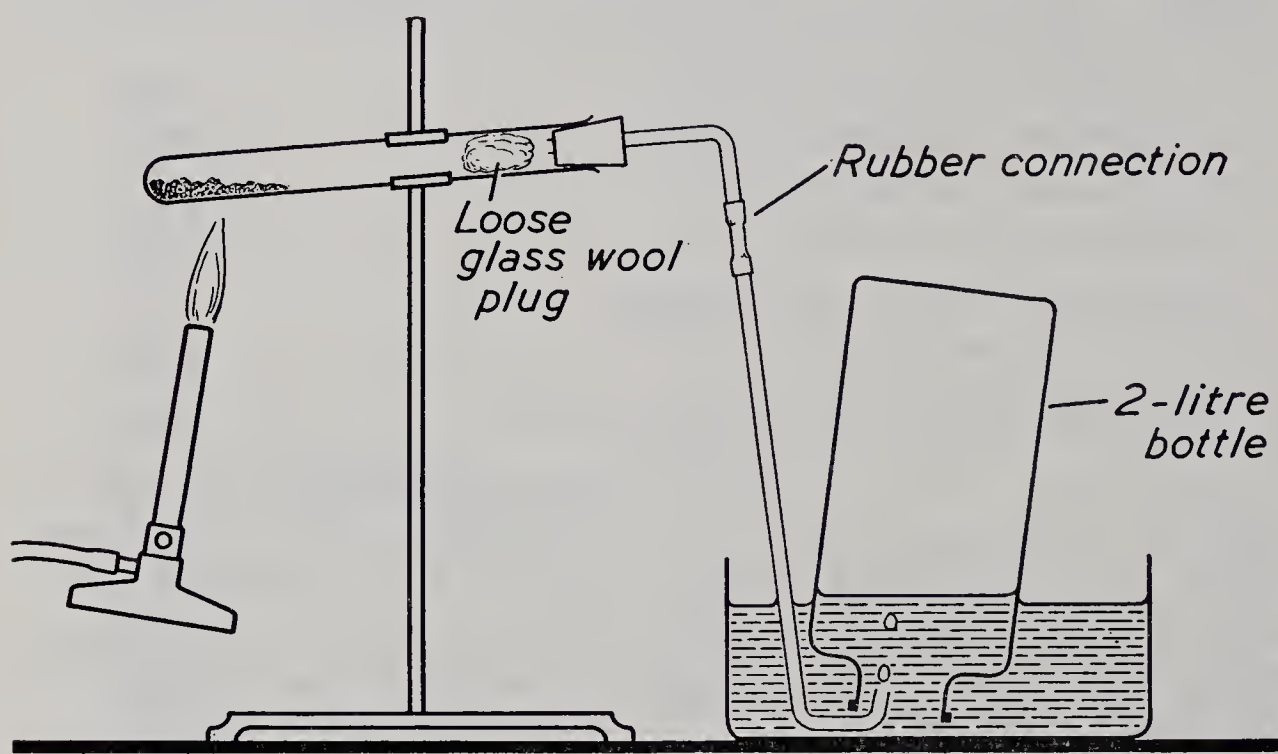

Fig. 48. Determining the gram-molecular weight of oxygen.
1. Mix about 3 gm. of dry manganese dioxide and 6 gm. of potassium chlorate on a piece of paper and put the mixture into a dry Pyrex test-tube. Insert a loose plug of glass wool above the mixture and insert a stopper containing a short piece of glass tubing in the test-tube. Weigh this generator and its contents. Arrange the apparatus as shown in Fig. 48. The pneumatic trough should be deep and the capacity of the collecting bottle should be about 2 litres.